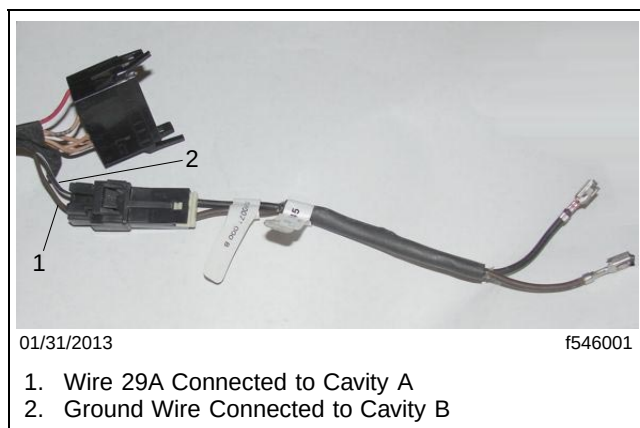

Fig. 7, Harness Attached to the Free Connector
10. Connect the new harness (A06-89235-000) to the free connector. See **Fig. 7**.